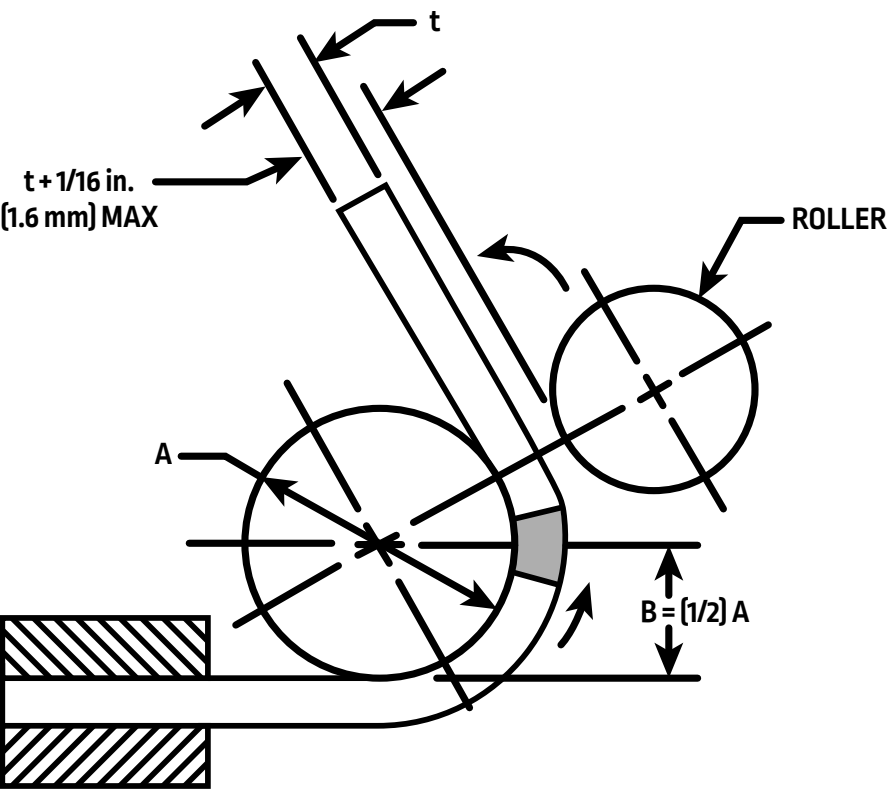

Figure 6-8: Wraparound Guided Bend Test
A much better test for welded aluminum bend samples is the wraparound guided bend test, shown in Figure 6-8. In this test, the sample is pulled around the mandrel and forced to stay in contact with it. These test jigs are often made from rotary tubing benders. Both AWS D1.2 and ASME Section IX encourage the use of these testers for aluminum. The same is true of most of the rules of many maritime societies such as the American Bureau of Shipping (ABS), Lloyd's Register (LR), Bureau Veritas (BV), Det Norske Veritas Germanischer Lloyd (DNV GL) and the like.